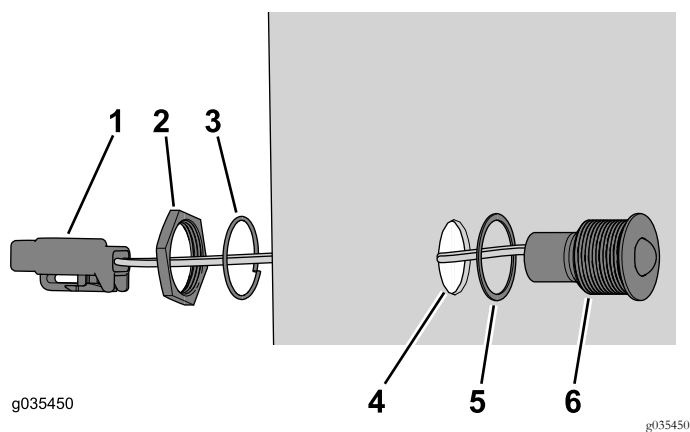

Figure 15
- Insert the connector through the mount hole in the cover panel (Figure 15).
Note: Ensure that the gasket is installed between the cover and indicator light (Figure 15).
- Use the retaining nut and lock washer to secure the indicator light to the mount hole in the cover panel (Figure 15).